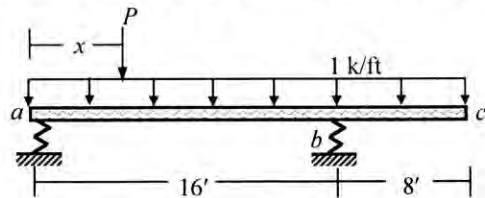

Fig. 2
3. Fig. 2 shows a rigid beam abc supported on helical springs a , b and subjected to uniformly distributed load 1 k/ft and concentrated force P at distance x from a .